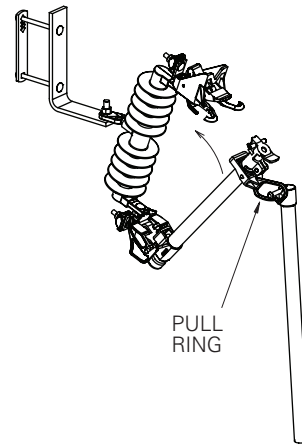

Figure 5. Closing the fuse into the UltraSIL Polymer-Insulated cutout
5. **Rotate the fuse** to an intermediate position as in (See **Figure 5**).